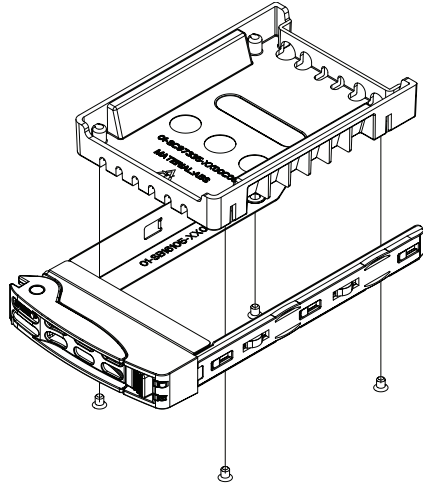

Figure 2-3. Installing a Hard Drive in a Carrier
4. Secure the drive to the carrier with six screws as shown in Figure 2-3.